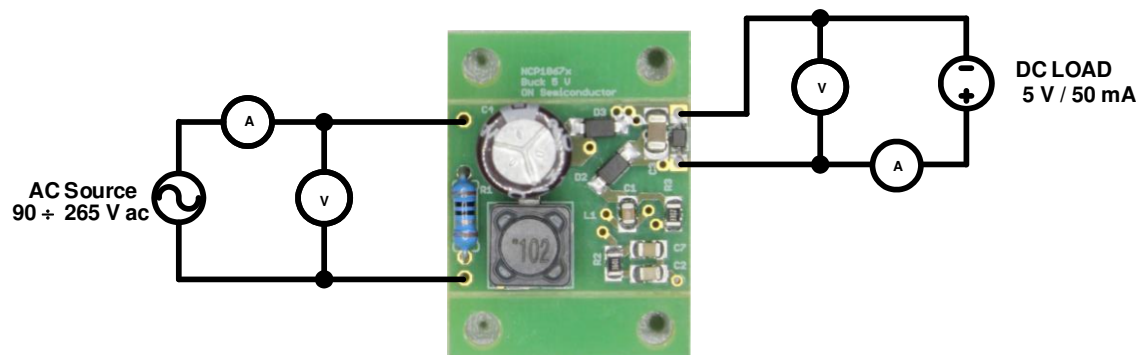

Figure 1: Test Setup for 5 V Buck Converter
1. Connect the test setup as shown in Figure 1.